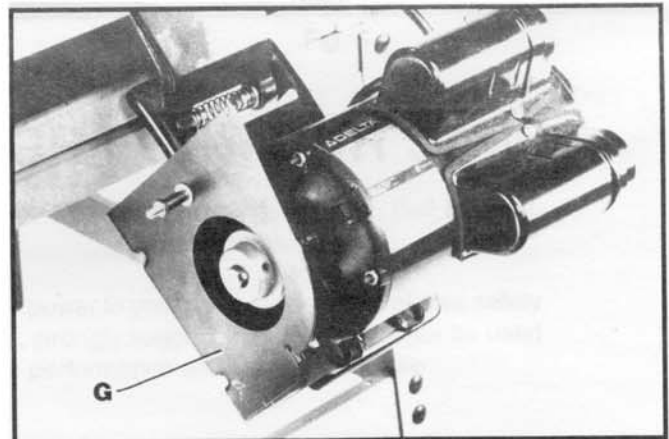

Fig. 13
- 4 Slide the belt and pulley guard bracket (G) Fig. 13, between the motor plate and motor mounting plate, as shown.